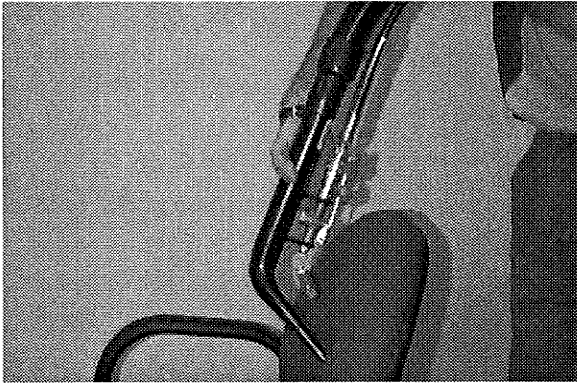

FIG. 6
5. Begin operating accessory tool (Figure 6).